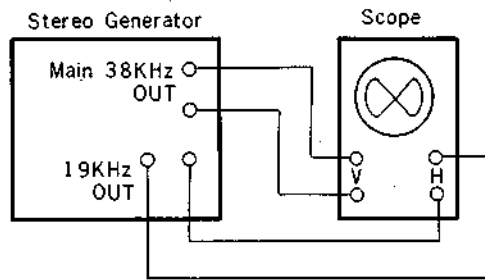

Fig. 4-2-1 Stereo Generator Phase Check Test
- (a) Connect the MPX Stereo Generator and oscilloscope as shown in Fig. 4-2-1.